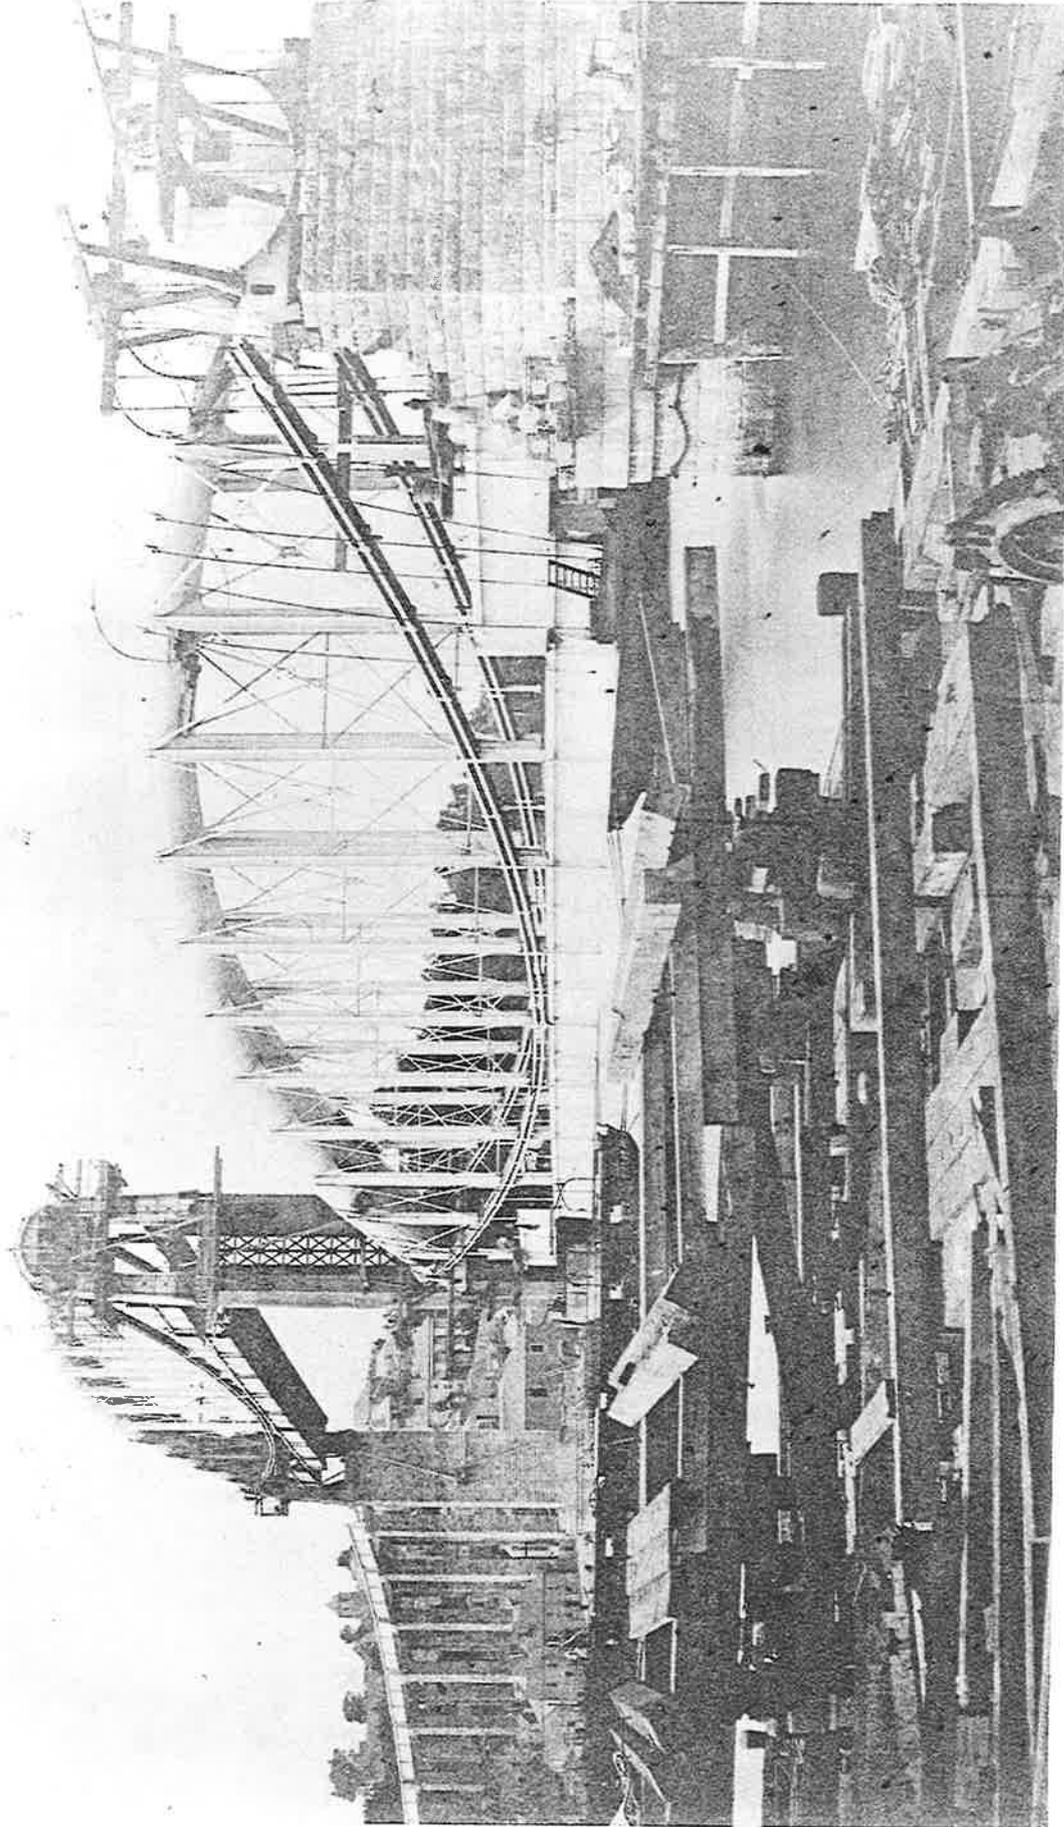

Figure 8
Engineers in the 19th century improved the technology of sinking foundations to bedrock. Up until that time, coffer dams and crude caissons were the only means by which foundations could be constructed in water. Their use was limited by the length of wooden piles and by soils that were unsuitable for pile driving because they were either too soft or too hard. Credit for developing the first pneumatic caisson belongs to William Cubitt and John Wright, who used the technique on the bridge (1851) over the River Medway at Rochester (UK). It was similar to the caisson developed by Labelye, but differed in that the chamber resting on the river's bottom was airtight and required workmen to enter by means of airlocks after the water had been driven out by pneumatic pressure. Working in this environment, men suffered from the little understood "caissons disease," now better known as "the bends." The eventual diagnosis of this condition permitted the construction of bridges of unprecedented scale, overcoming the impediment of deep, broad rivers. Isambard Kingdom Brunel used the technique for sinking the piers of his bridge at Chepstow, Wales (UK) and, on a much grander scale, on the Royal Albert Bridge (1859) over the Tamar at Saltash in Cornwall (Figure 8). Here, the central pier was built on a wrought-iron caisson 37ft (11m) in diameter, sunk to bedrock in 70ft (21m) of water and 16ft (5m) of mud.